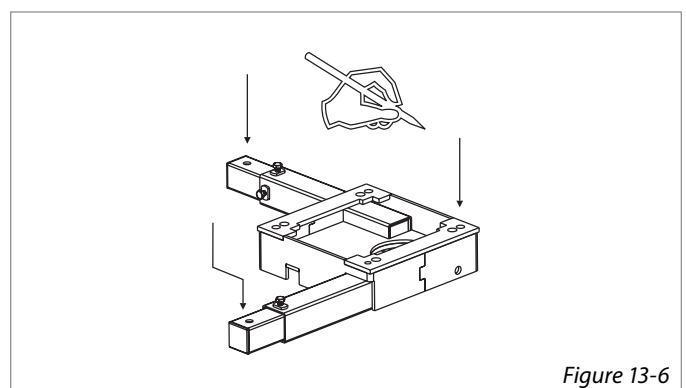

Figure 13-6
5. **Verify that each of the measurements allows full range of motion** within the cargo area and the opening, mark the three locations to drill. [Figure 13-6]